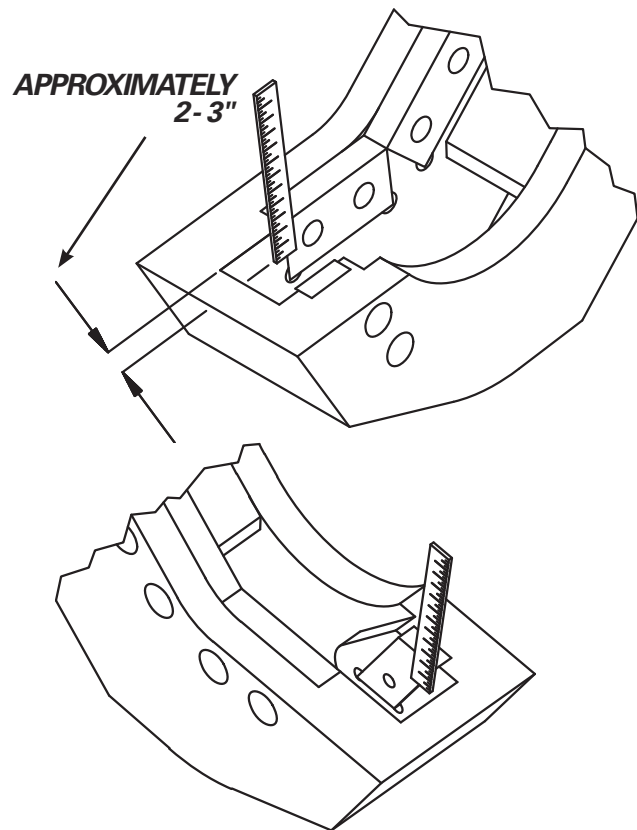
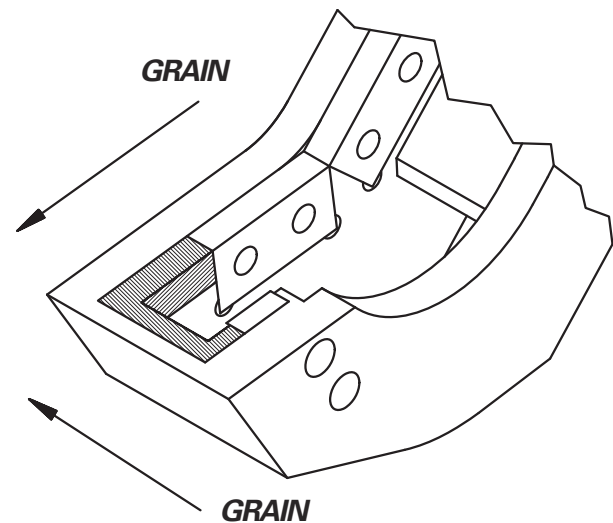

FIGURE 5-12
FIGURE 5-13
7. Hardsurface the top side of lower 1½-2" (38-50 mm) wide (figure 5-12) using the same preheating, welding and peening procedure. Be sure to weld with the grain of the steel (see figure 5-13).